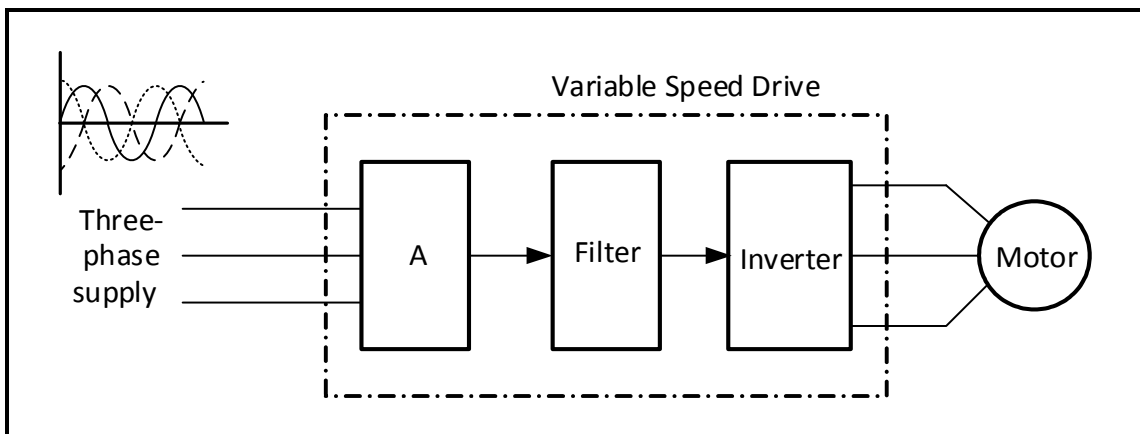

FIGURE 6.16: BLOCK DIAGRAM OF VSD
- 6.16 FIGURE 6.16 below is a block diagram of a variable speed drive (VSD). Answer the questions that follow.